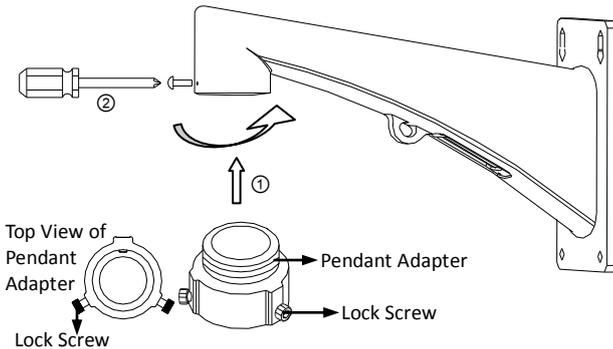

Figure 2-4 Install the Pendant Adapter
9. Secure the pendant adapter to the wall mount with a set screws shown in Figure 2-4.